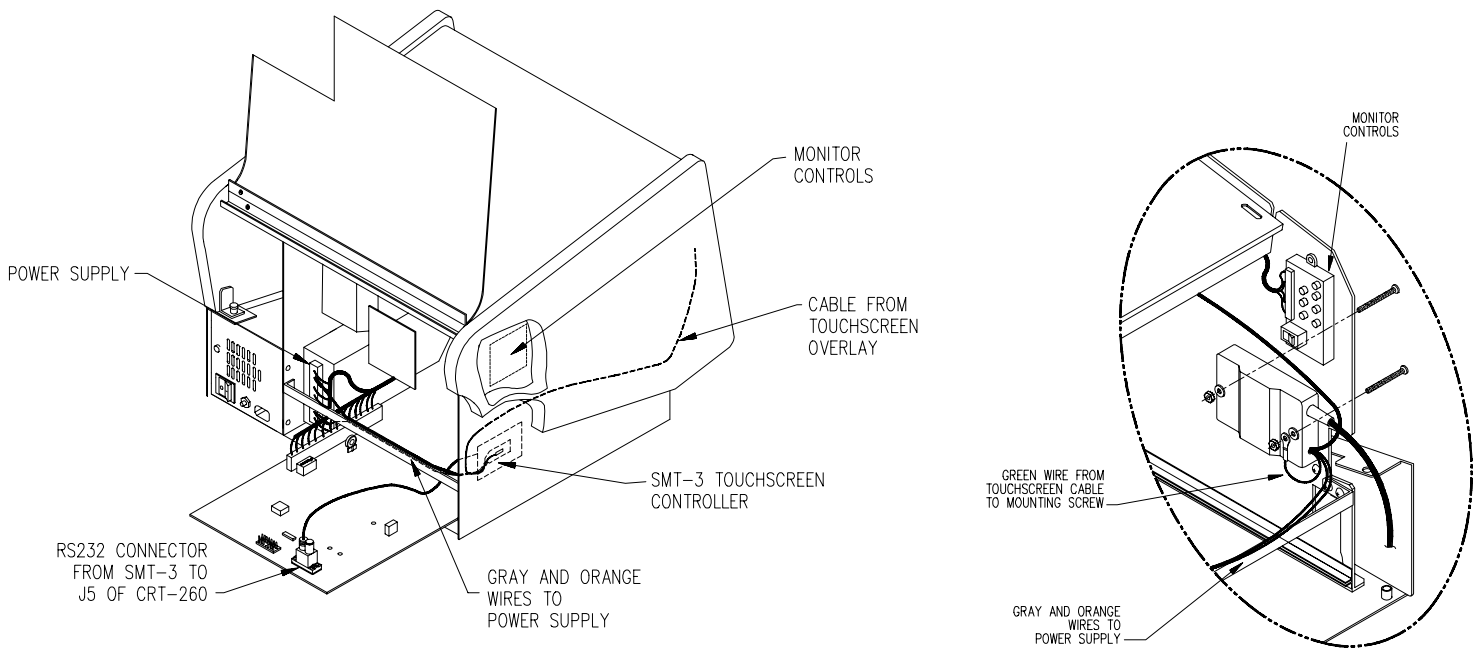

Figure 2 - Location of SMT-3 13" Countertop
- Install the new controller on the inside of the metal chassis as shown in Figure 2 and Detail A. Mount the SMT-3 using the included screws and washers. (The screws should come through the hole in the chassis (so that the head of the screw is between the metal chassis and the side of the lid), and then through the holes in the controller.) See Detail A for installation diagram.